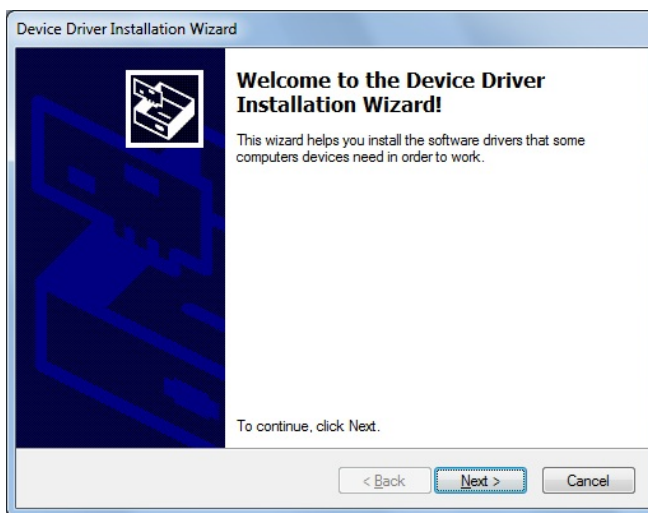
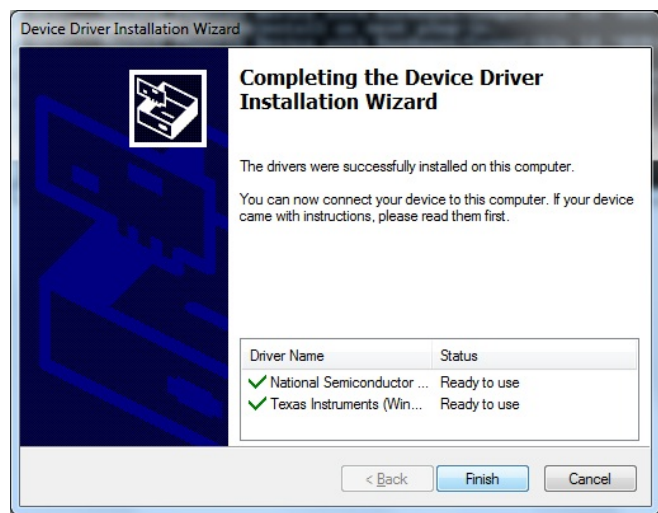

Figure 14. Installation Wizard Screen
Figure 15. Simple Capture Card Device Driver Completion
1. Immediately after the ADS86xxEVM software installation is complete, prompts appear to install the simple capture card device driver; see Figure 14 and Figure 15.